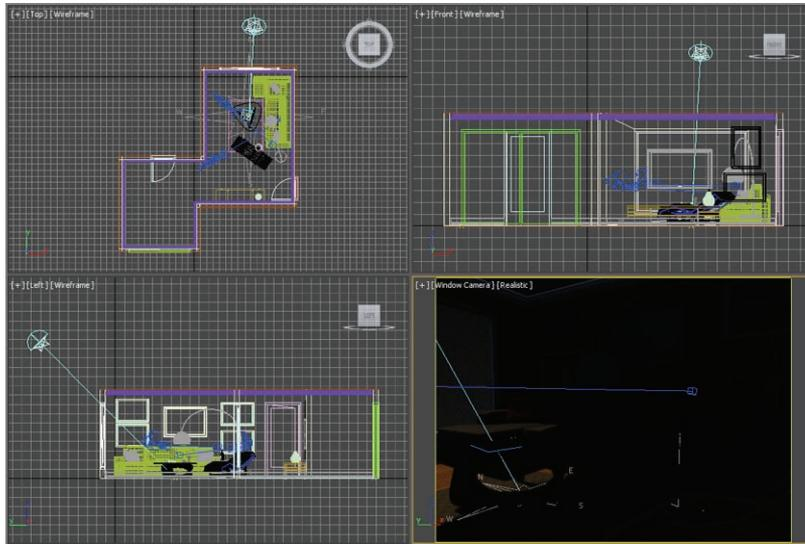

FIGURE 16.30 Move the Daylight System light so it will shine through the window.
9. Move the light so it is going through the window, as shown in Figure 16.30.